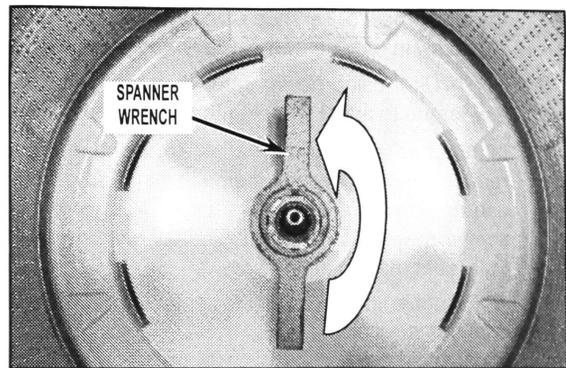

FIGURE 3
3. Use a spanner wrench and hammer to remove the spanner nut. See *Figure 3*.